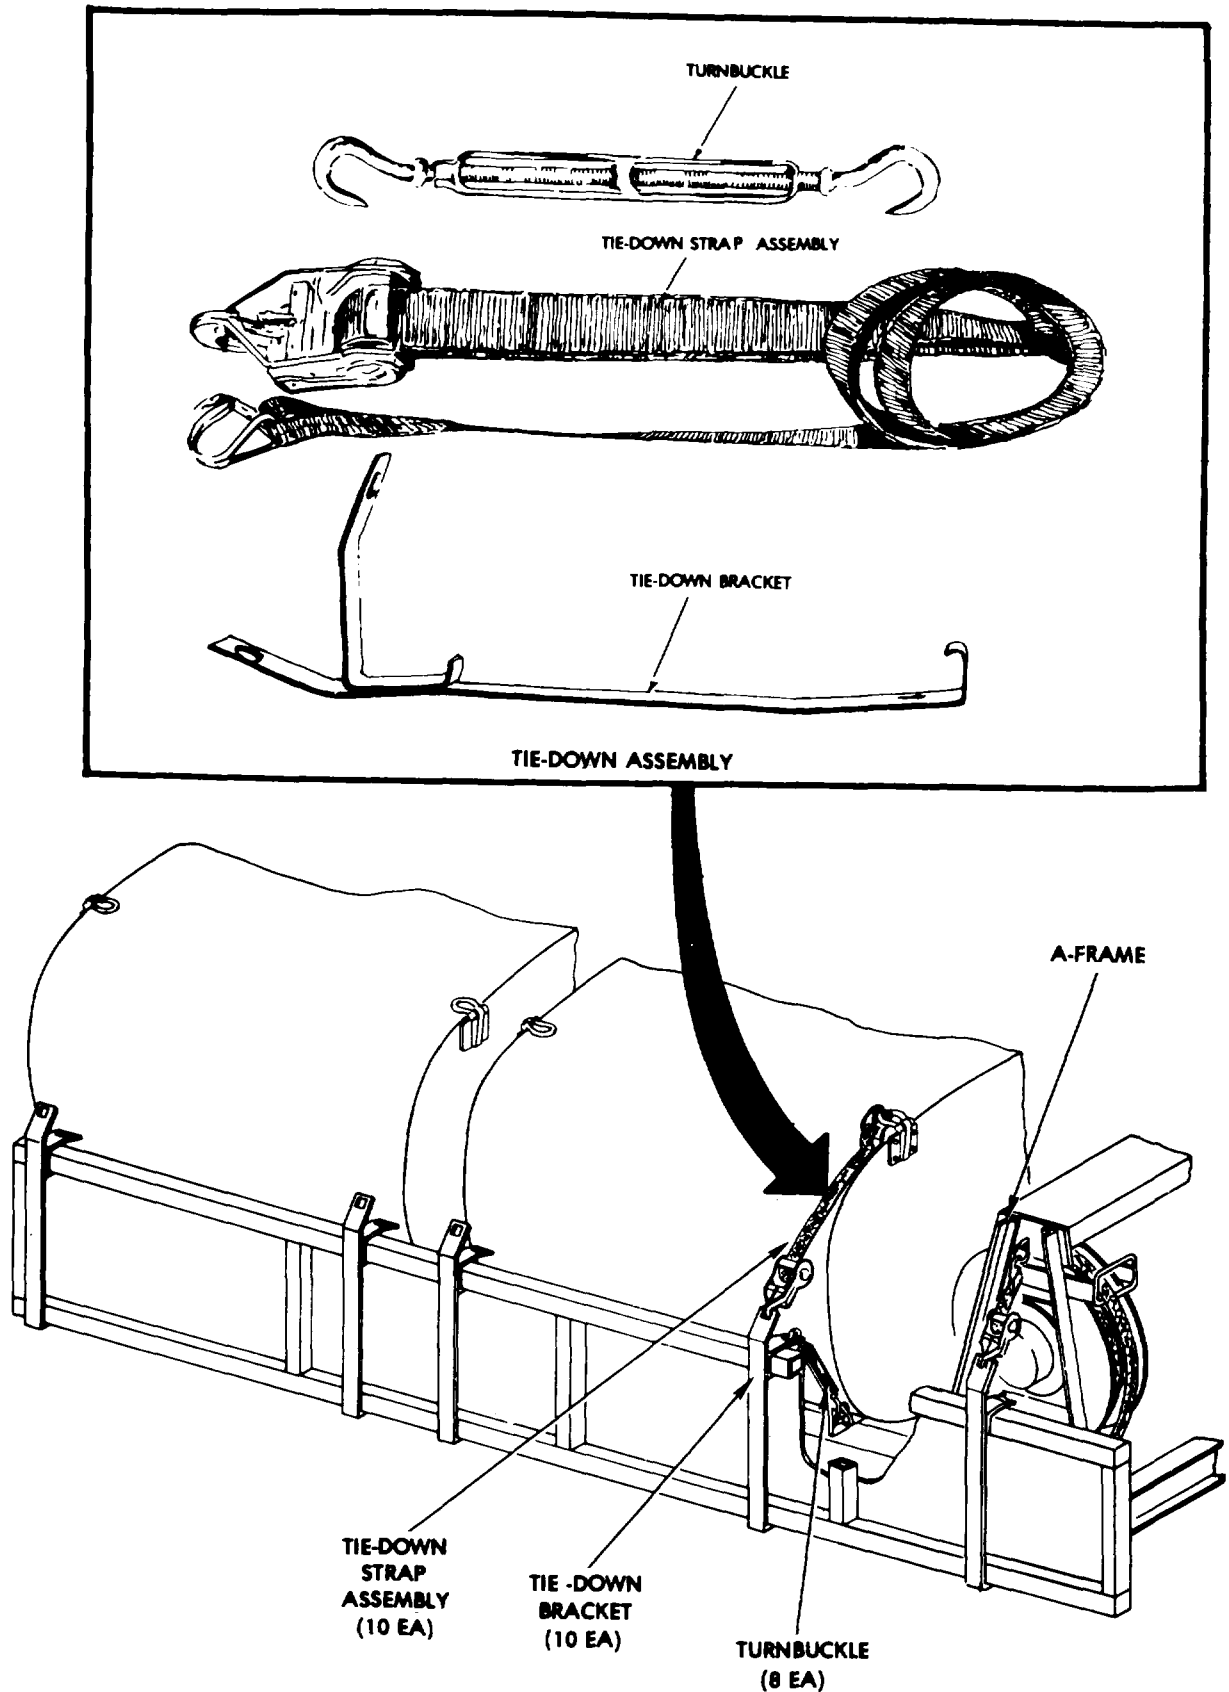

Figure 4-1. Tank and Pump Unit Tiedown Installation.
Four tiedown assemblies are used on each tank and two tiedown assemblies are used on the pumping assembly. Turnbuckles are not used on the pumping assembly (figure 4.1).
- d. Connect one tiedown bracket between the truck and each tiedown link on the tank skids, using turnbuckles (figure 4-1).